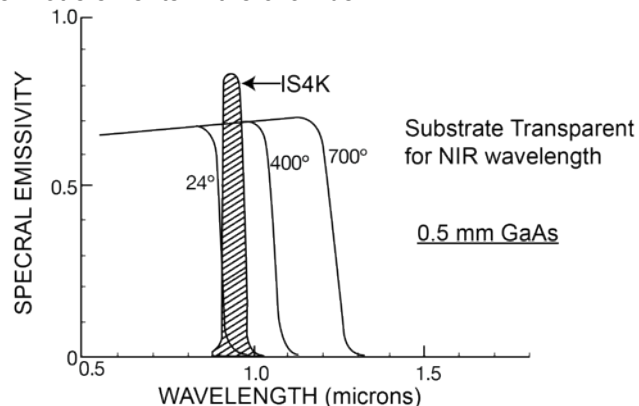

Figure 7 – Substrate Transparency of GaAs requires small spectral detection range and limits Temperature Measurement to 370 °C @ 950 nm
1. Semiconductor substrates have varying transparency with temperature. Many semiconductor substrates are partially transparent at 850 and 950 nm at low temperatures. At higher temperatures, typically the band gap shifts to longer wavelengths and the substrate becomes acceptably opaque. The wavelengths used in the In-Situ 4000 were chosen to be opaque for silicon, GaAs, and InP substrates at elevated temperatures. Silicon, for example, is partially transparent at 950 nm below about 550 °C and so pyrometry measurements may be adversely affected at lower temperatures. Depending on doping levels, GaAs substrates can be partially transparent up to 600 °C. When the substrate is transparent, the effective emissivity will be low, yet the emissivity measurement will not be correct since the emissivity calculation is based upon the assumption of opaque substrates. (See Figure 7)